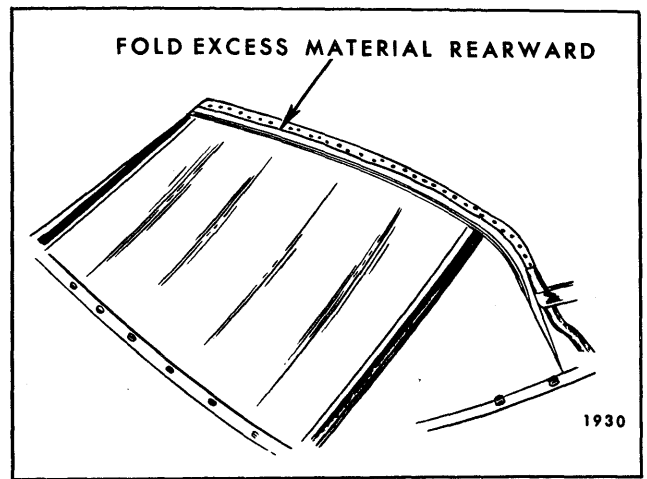

Fig. 6-20—Back Curtain Installed
15. Working from body center progressively outboard to right and left sides, tack back curtain upper valance to rear bow. Make sure all fullness has been drawn from curtain material (Fig. 6-20). Fold any excess back curtain upper valance material rearward and tack to rear bow.